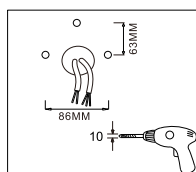

Figure 4
1. Drill holes on the wall as shown (Figure 4);